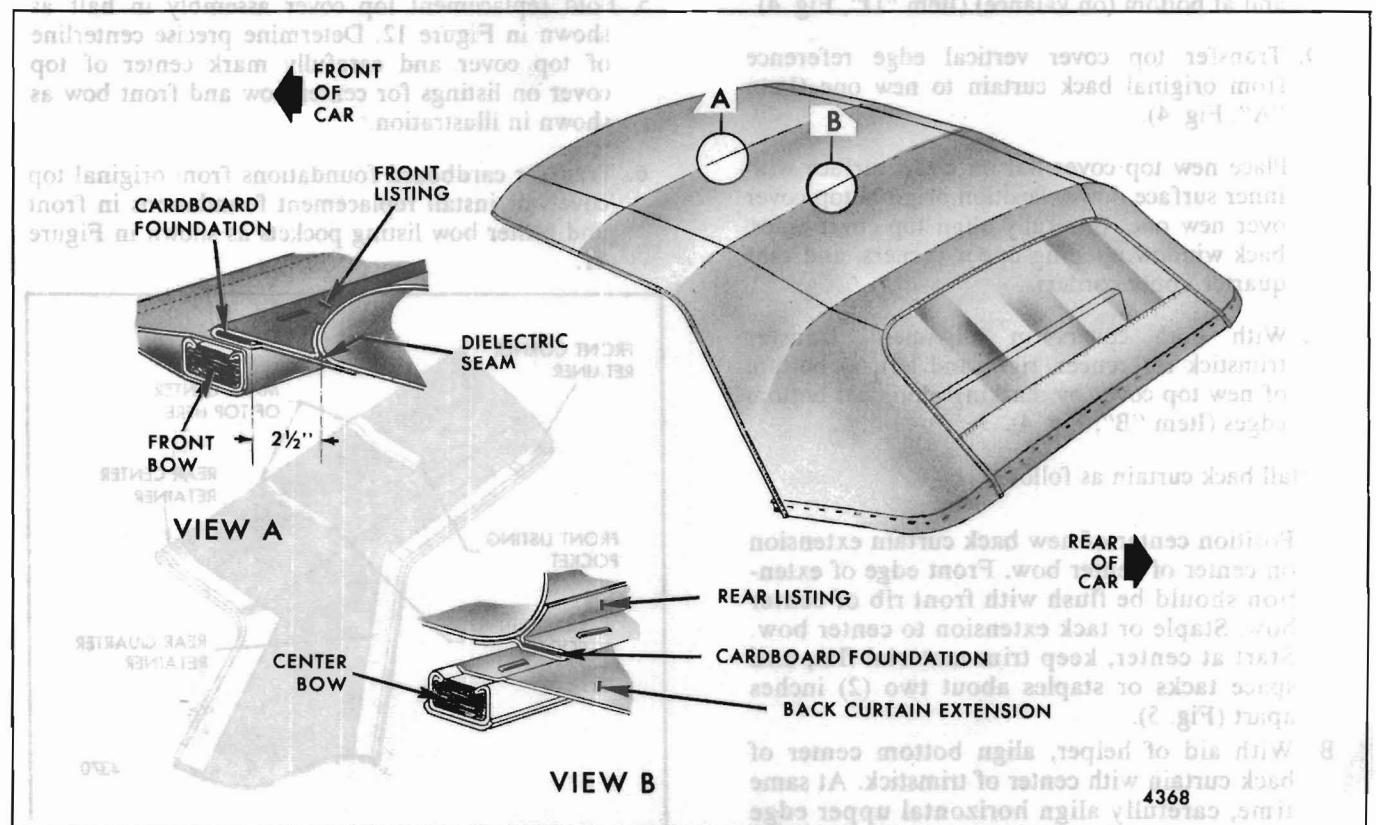

Fig. 11-Top Cover Attachment At Front And Center Roof Bows
A. Detach top cover rear listing from center bow. Turn rear of top cover forward for access to rear listing (Item "B", Fig. 11).
B. Detach top cover front listing from front roof bow. Turn front of top cover rearward for access to front listing (Item "A", Fig. 11).
6. Transfer cardboard foundations from original top cover, or install replacement foundations in front and center bow listing pockets as shown in Figure 11.
7. Position center of top cover rear listing on center bow and staple or tack in place. Space fasteners about two (2) inches apart (Fig. 11).
13. Secure top cover front listing to front roof bow as follows (Fig. 11):
- C. Secure listing in place with staples or tacks spaced about two (2) inches apart. Distance from end of foundation to center of dielectric seam should be about 2-1/2 inches as shown in View "A", Figure 11.
- A. Detach top cover rear listing from center bow. Turn rear of top cover forward for access to rear listing (Item "B", Fig. 11).
- B. Detach top cover front listing from front roof bow. Turn front of top cover rearward for access to front listing (Item "A", Fig. 11).
4. Transfer cardboard foundations from original top cover, or install replacement foundations in front bow and center bow listing pockets as shown in Figure 11.